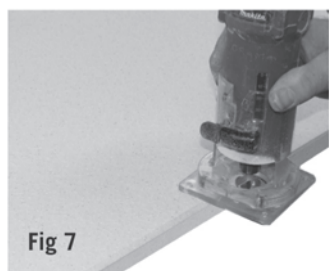

Fig 7
4. Always use a router / trimmer fitted with a bottom bearing radius cutter or alternatively use 240 grit sand paper and a hand block to create a pencil round radius.* (Fig 7)